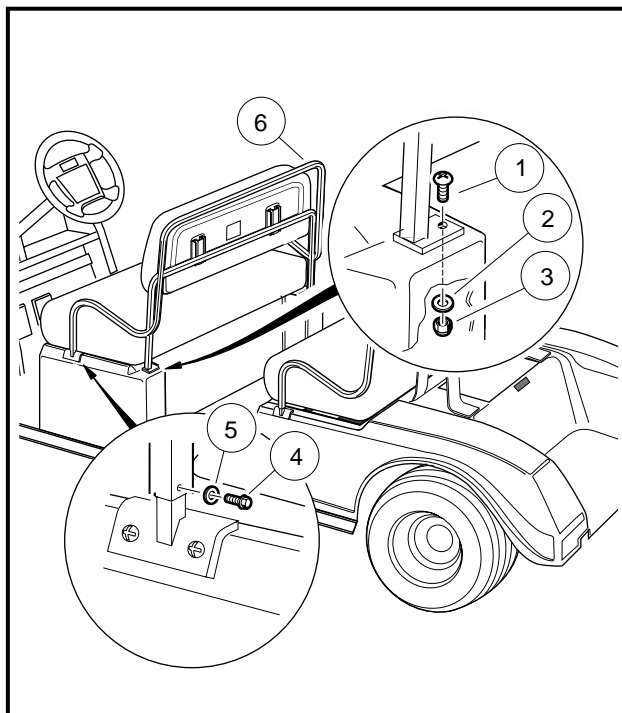

Figure 4-2 Center Body Seat Back Assembly
3. Remove screws (4) and washers (5) from the each side of the armrest/seat back assembly (6) (**Figure 4-2, Page 4-4**).
4. Remove the screws (1), locknuts (3) and washers (2) from each side of the armrest/seat back assembly (6) (**Figure 4-2, Page 4-4**).
5. Remove the armrest/seat back assembly (6) (**Figure 4-2, Page 4-4**).
2. Tighten screws (4) to 9 ft-lb (12.2 N-m) and screws (1) to 18 in-lb (2.0 N-m) (**Figure 4-2, Page 4-4**).